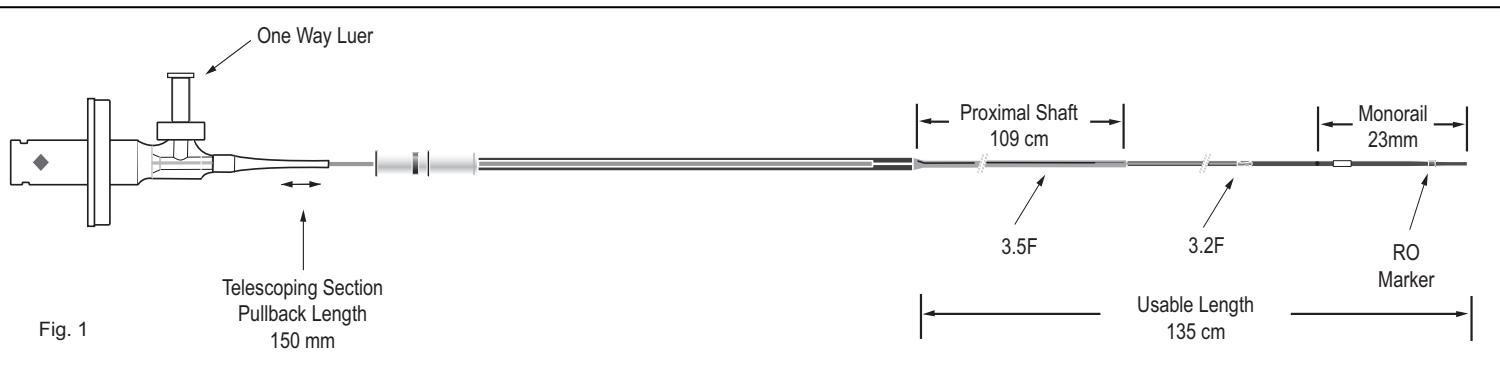

Fig. 1
A flushing port with a one-way valve (Fig. 1) is used to displace the air initially present within the catheter. The catheter must be flushed with heparinized saline prior to use, as this provides the acoustic coupling media required for ultrasonic imaging. The one-way valve helps retain saline in the catheter during use.
The catheter body has a distal guidewire lumen with a proximal exit port located 2 cm from the distal end (Fig 1). A radiopaque (RO) marker is embedded in the catheter body at 0.5 cm from the tip. In addition, an insertion depth indicator is located on the catheter body at 100 cm, corresponding to femoral insertions.